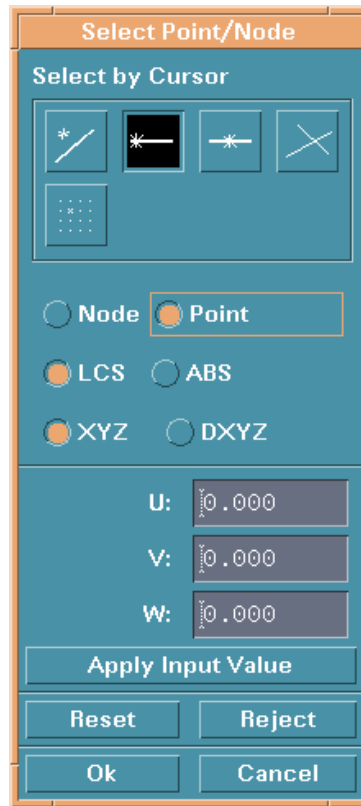

Figure 6.3.12 NODES/POINTS
- If you select NODE/POINT, a new dialog window will be displayed (Figure 6.3.12). This window prompts you to select the appropriate NODES/POINTS, and also gives you different options for doing so.